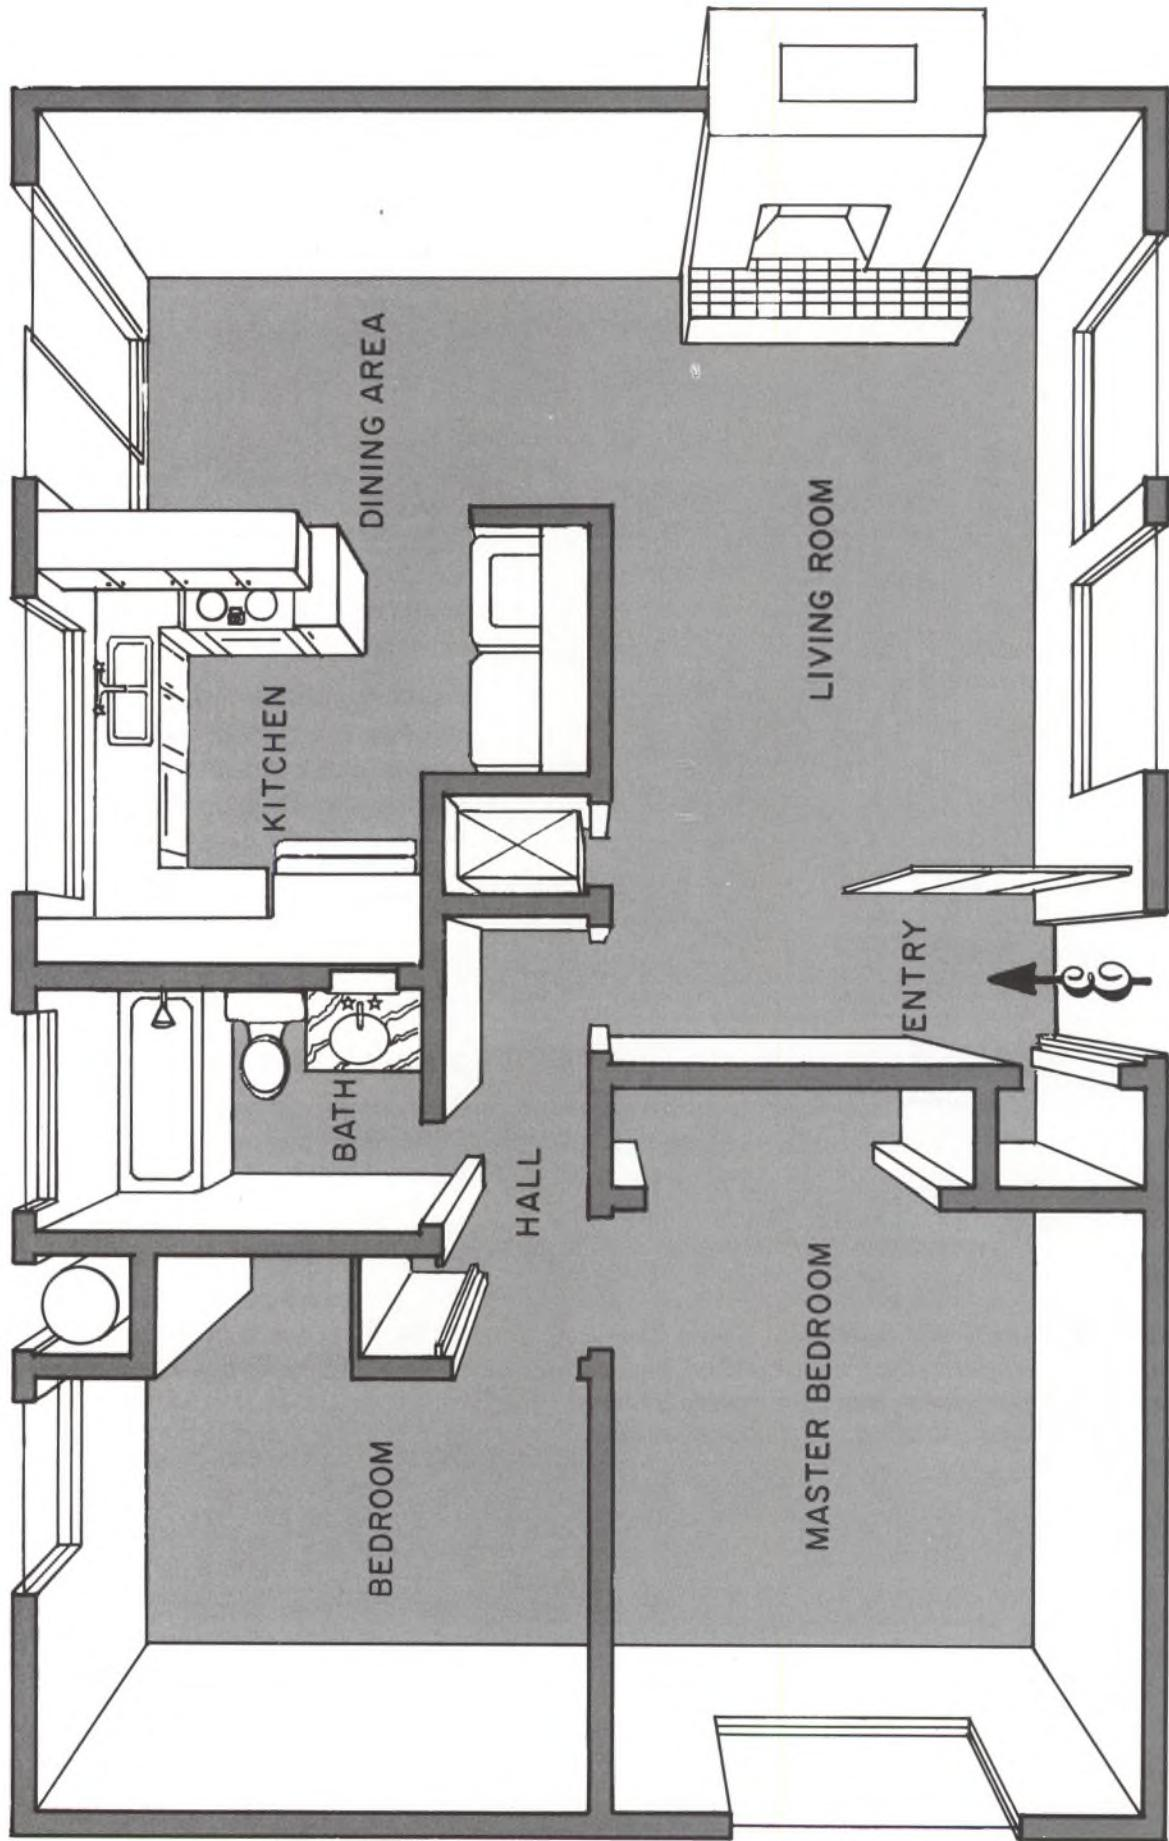
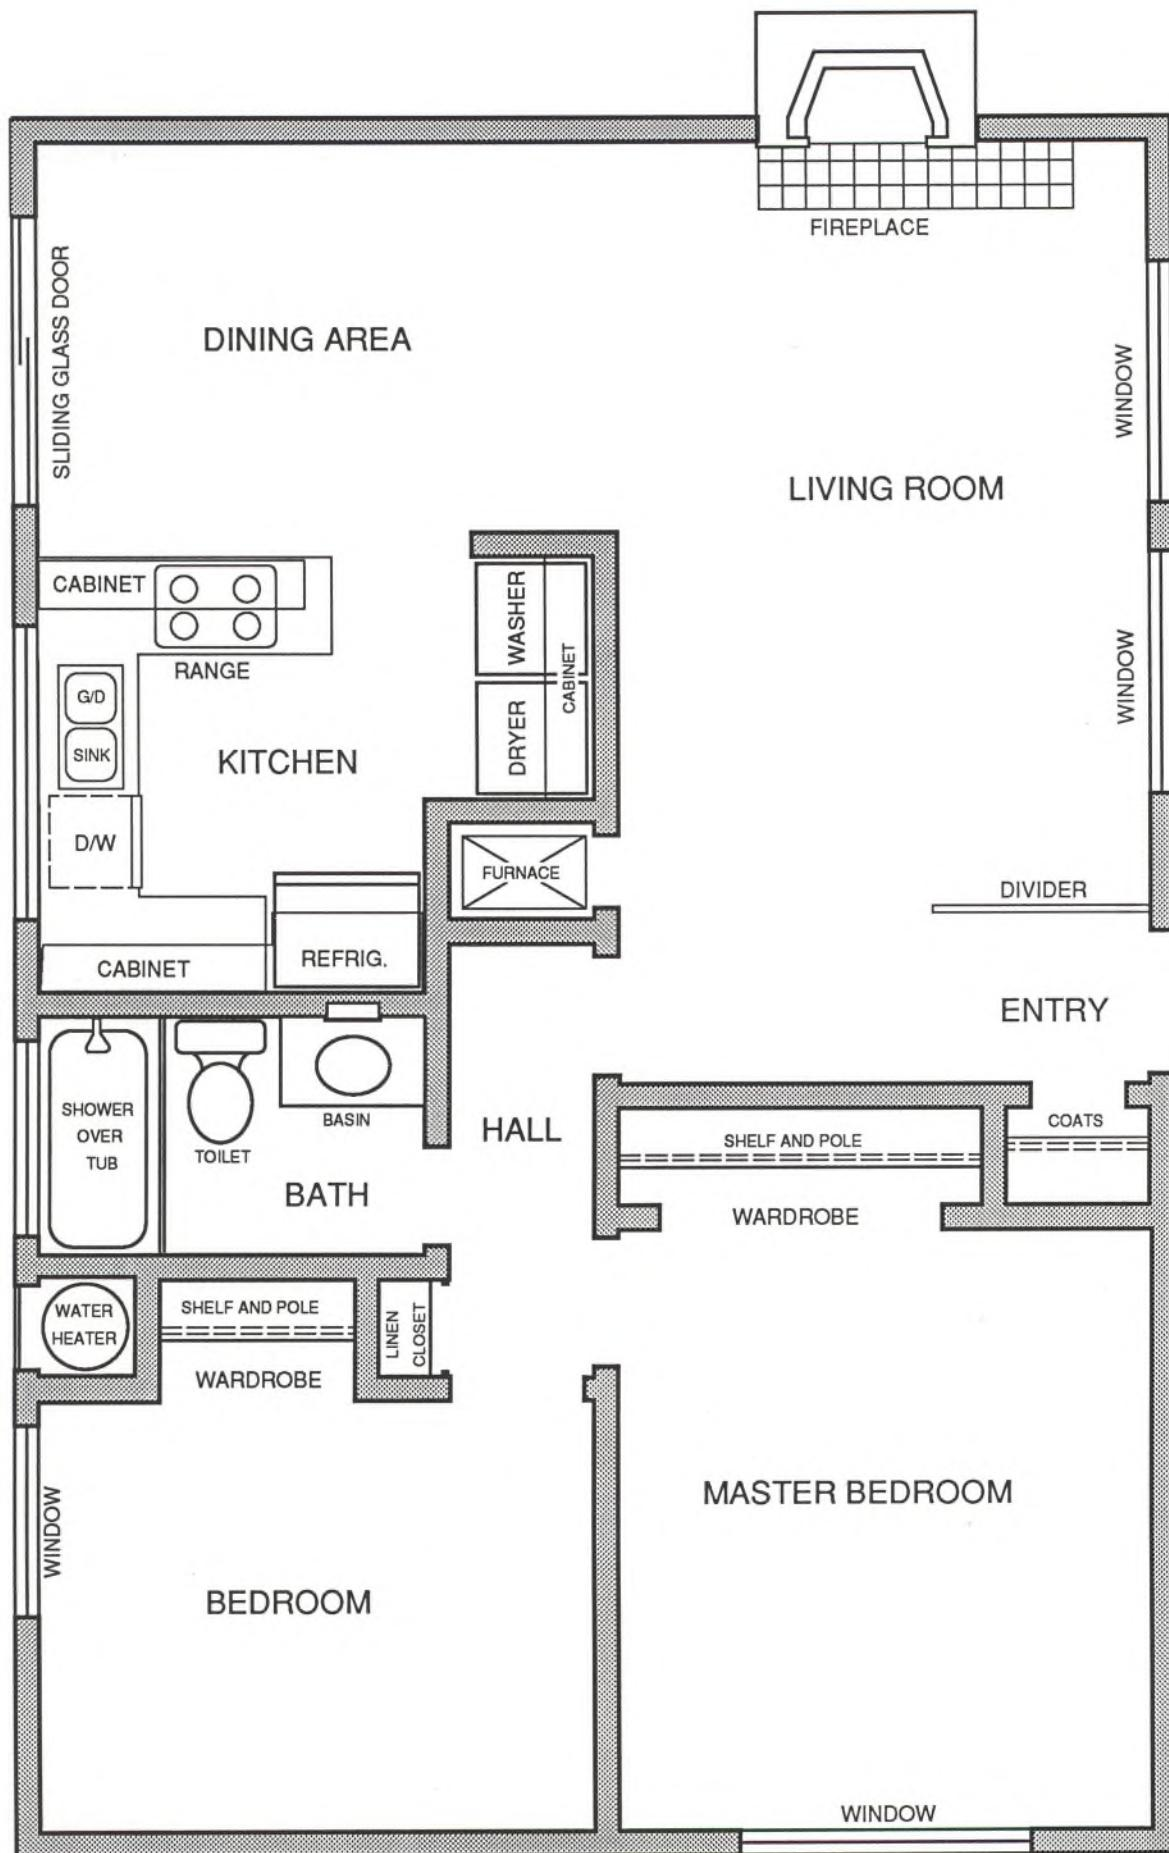

Fig. 4.1 What a floor-plan drawing portrays.
Fig. 4.2 An actual floor plan drawn to 1/4" scale.
3. To visualize sizes in scales smaller than 1/4", compare Figs. 3.7 and 3.8 with Fig. 4.2. These three illustrations are all from the same plan. In Fig. 4.2, the plan has been drawn to a scale of 1/4" = 1'. In Fig. 3.7 the plan is shown in 1/8" scale and in Fig. 3.8 it is shown in 1/16" scale.
What you see when you look at or draw a floor plan is exactly like what you would see if you had a detailed scale model of a building and were looking straight down into it, as in Fig. 4.1.
1. Compare each of the features in Fig. 4.1, used as an example to clarify the meaning of a floor plan, with the corresponding features of the actual floor plan, Fig. 4.2.
NOTE: The darkest shaded lines in Fig. 4.1 indicate walls and conform to the dark shaded wall lines in the floor plan, Fig. 4.2. The floor plan is drawn to a scale of $1/4" = 1'$.
Begin by making a drawing of the master bedroom from the floor plan in Fig. 4.2. You will learn more from this particular project if you do not trace the room.
When one is beginning to draw a floor plan, there are always design parameters within which one must work. The designer must consider the needs and desires of the family who will live in the house and also the restrictions imposed by the building site. This unit will help you to learn simple procedures for analyzing space requirements and arranging living space for optimum use. By studying the sequential design procedures used in the development of the floor plan, Fig. 4.2, you can learn to draw floor plans of your own design.
In designing the floor plan, Fig. 4.2, the project was to design a vacation house for a family of three who required a small, one-story, two-bedroom house with a two-car garage. They had purchased a 70' x 100' level lot featuring three attractive trees. Disadvantages of the site included wind from the north-west and an unattractive vacant lot adjoining the property. The budget for the project was limited.
Observe the sequence of steps followed in developing the bubble diagrams and floor-plan sketches for the book plan example, Fig. 4.2.